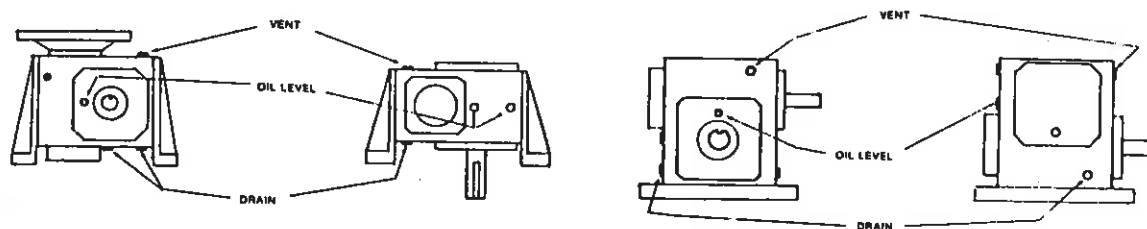

Figure 8 Standard Oil Levels
- C. Fill reducer with the recommended oil to proper level. See Fig. 8 for standard oil levels. (Type of oil recommended — see nameplate).